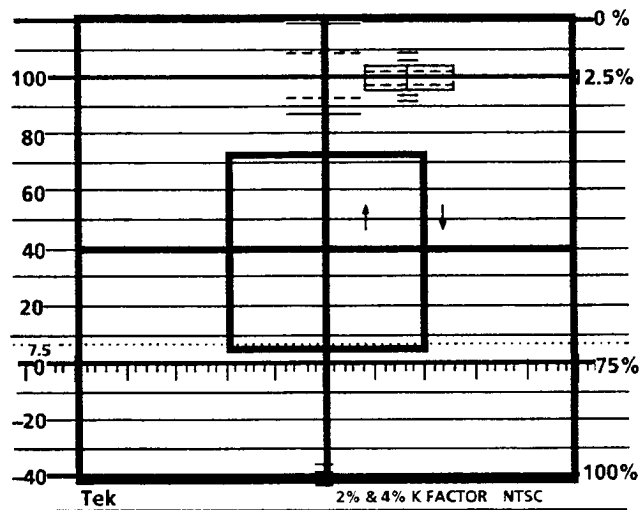

Figure 7-5: DAC test pattern superimposed on the 1730D graticule
- f. Check that there is a DAC display. See Figure 7-5.
- l. Adjust A3R448 and A3R21 (HORIZ and VERT READOUT POS) to position the DAC display in the center of the CRT. See Figure 7-5.